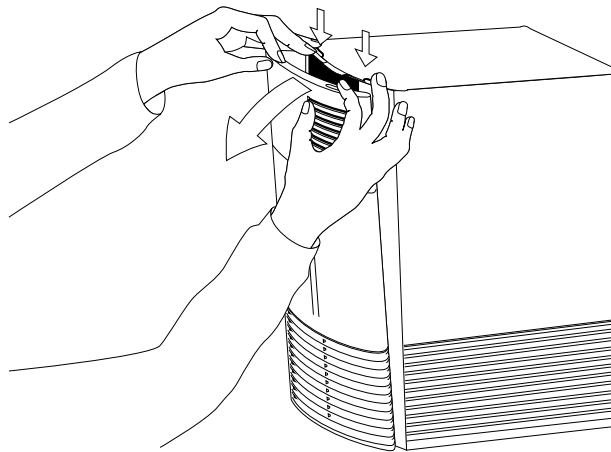

Figure 2-2 Removing the front bezel
- Press down on the tabs on each side of the front bezel, as shown in Figure 2-2.